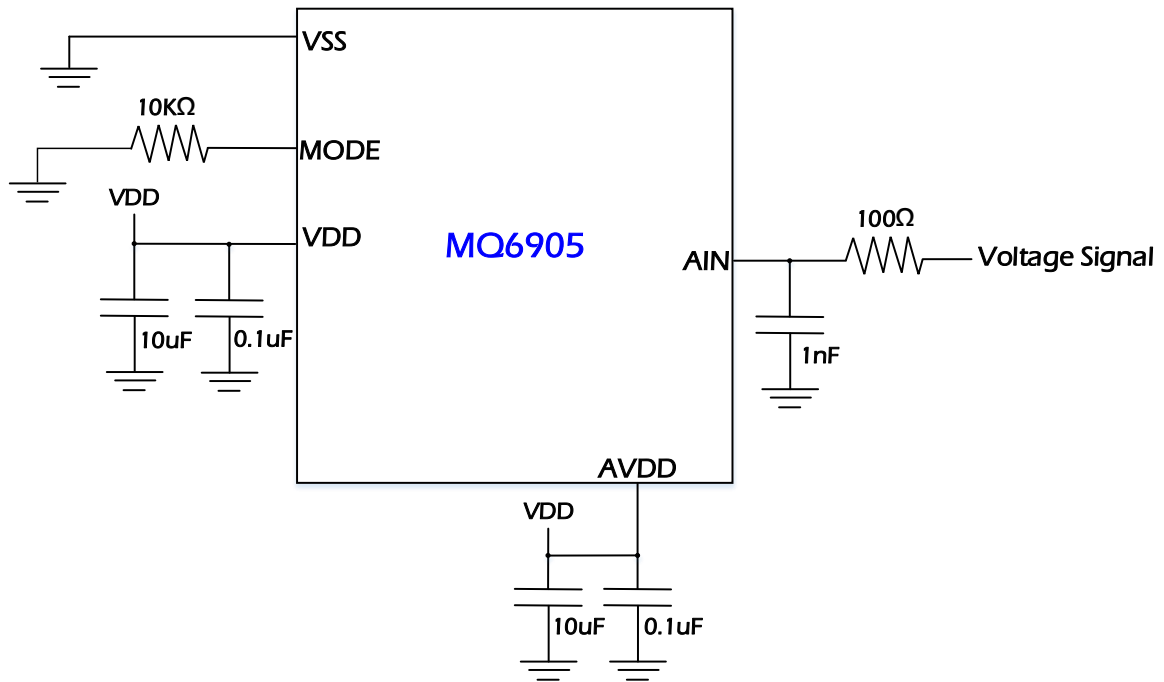

Figure 2.2 Recommended external circuit when using MQ6905 (different power sources for VDD & AVDD)
6. VDD pin and AVDD pin need to be equal potential. If the power sources of VDD and AVDD are different, 10uF and 0.1uF capacitor need to be connected respectively, 0.1uF capacitor should be close to IC as much as possible. (Figure 2.2)
*Note 4) When using ADC, please refer to 「Figure 2.2 Recommended external circuit when using MQ6905」.*